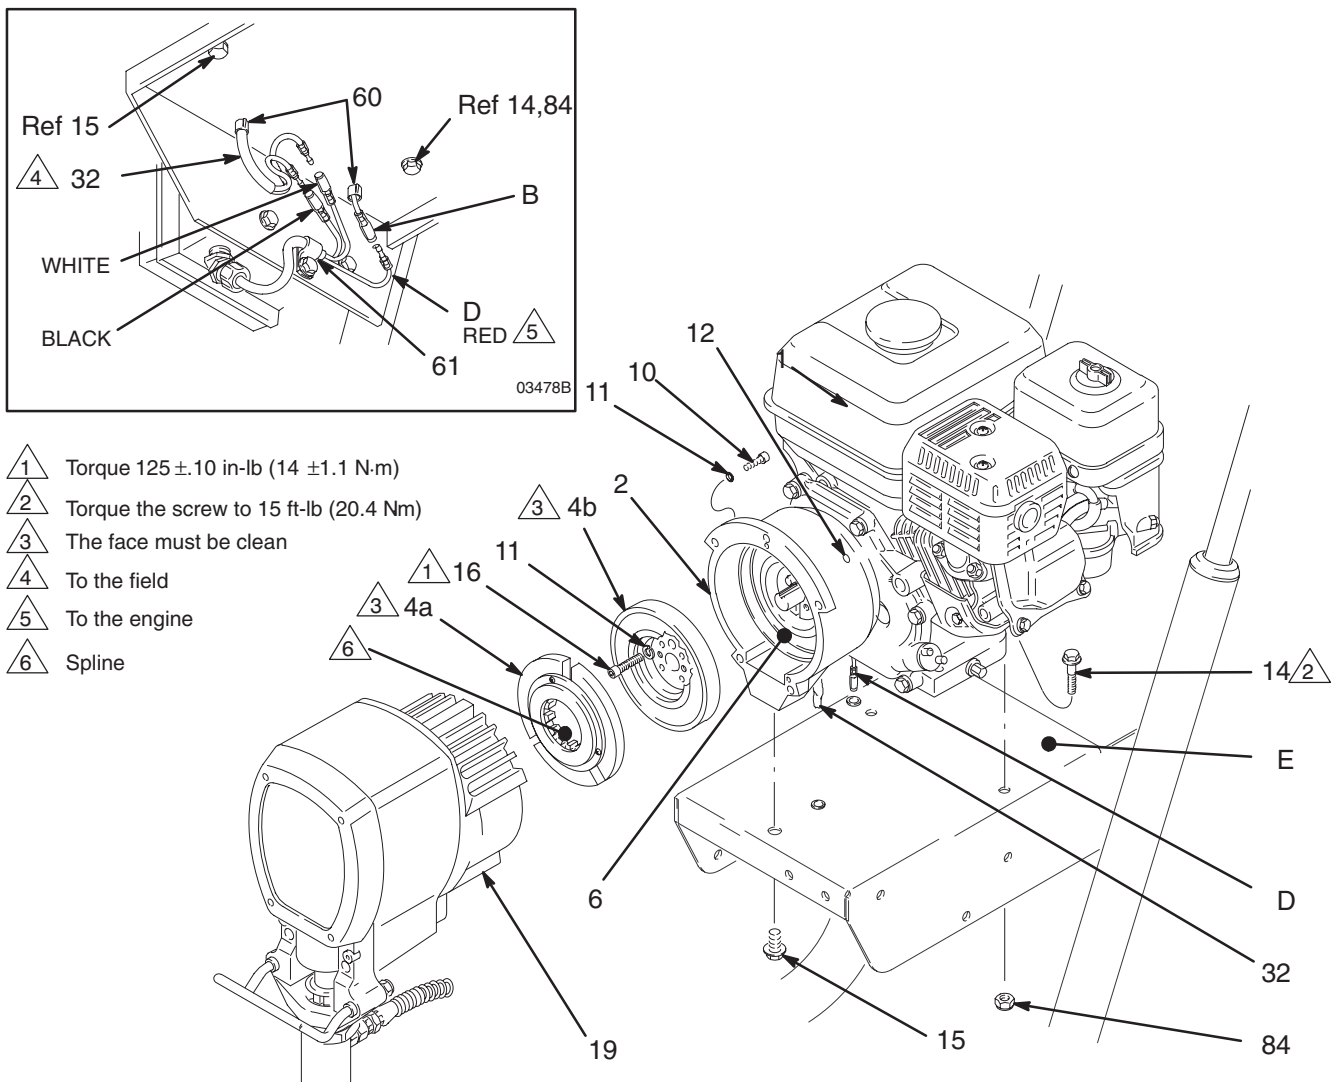

Fig. 19
5. Place the **engine (1)** assembly on the cart. Align the mounting holes. Carefully guide the engine wire (D) and wiring harness (32) from the field, through the appropriate grommets (60) in the mounting plate (E). Install the flange screws (14) and locknuts (84). Torque to 15 ft-lb (20.4 N·m). Install the capscrew (15) from under the engine mounting plate to the clutch housing (2). Connect the engine wire (D) to the red wire, and connect the black and white wires as shown in the Detail drawing in Fig. 19.
6. Be sure the face of the **rotor (4b)** and the field are free of all oil and contaminants. Remove any burrs on the outside edge of the rotor. Install the rotor, lockwashers (11) and capscrews (16). Torque the capscrews to 125 ± 10 in-lb (14 ± 1.1 N·m). See Fig. 19.
7. Be sure the face of the **armature (4a)** is clean. Assemble the armature to the shaft in the pinion housing (19). A retaining ring located within the armature makes it difficult to assemble these parts. Follow this procedure for the best results. First, lock a few splines of both parts. While they are locked, use a screwdriver to gently push the retaining ring into the armature, and finish engaging the splines. Push the armature onto the shaft until it contacts the ring (19m). See Fig. 19.
8. Assemble the **pinion housing (19)** to the clutch housing, using the capscrews (10) and lockwashers (11). See Fig. 19.